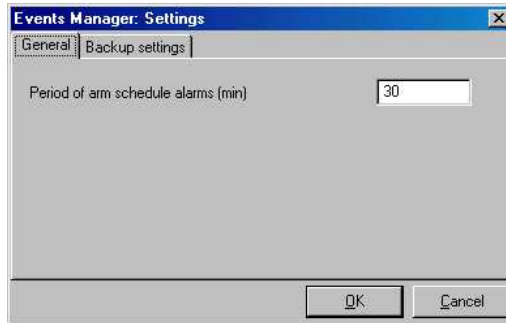

Figure 15 - Event Manager Settings
- ◆ Select a User and enter a password. The Event Source configuration window is displayed (see Figure 15).